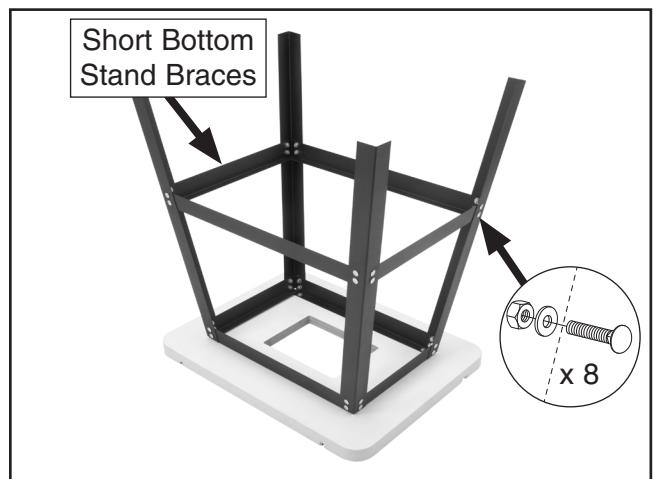

Figure 5. Short bottom stand braces attached to the legs.
4. Attach the short bottom stand braces with the remaining (8) M8-1.25 x 10 carriage bolts, 8mm flat washers, and M8-1.25 hex nuts, as shown in **Figure 5**.